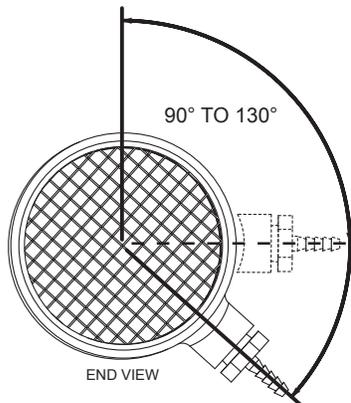

Figure 15. Orientation of Intake Air Tee Fittings
Ensure the hose barb installed in the Tee fitting **IS NOT** facing down towards the ground (180° - 6 o'clock position) before venting installation begins. The barb fitting must be angled between 90° and no more than 130° as shown in **Figure 15**. If the barb fitting is facing down, residual condensate that occasionally forms in the intake air pipe can drain into the Blocked Intake Air switch through the attached sensing tube and damage the switch. This condition can also lead to Blocked Intake Air fault conditions and associated control system lock outs.
The intake air Tee fitting is factory installed with the 1/2 inch branch and hose barb angled to the right at approximately 130° when viewed from the end, see **Figure 15**. The Tee fitting's 1/2 inch
Inspect the angle of the Tee fitting's 1/2 inch branch and hose barb while viewing from the end of the Tee. See **Figure 15**. If the angle of the Tee fitting 1/2 inch branch and hose barb is lower than shown, adjustment will be necessary. To adjust the intake air Tee fitting angle follow the steps listed below.
4. Adjust the angle of the Tee fitting so that the 1/2 inch branch and hose barb are at the proper angle as shown in **Figure 15**.